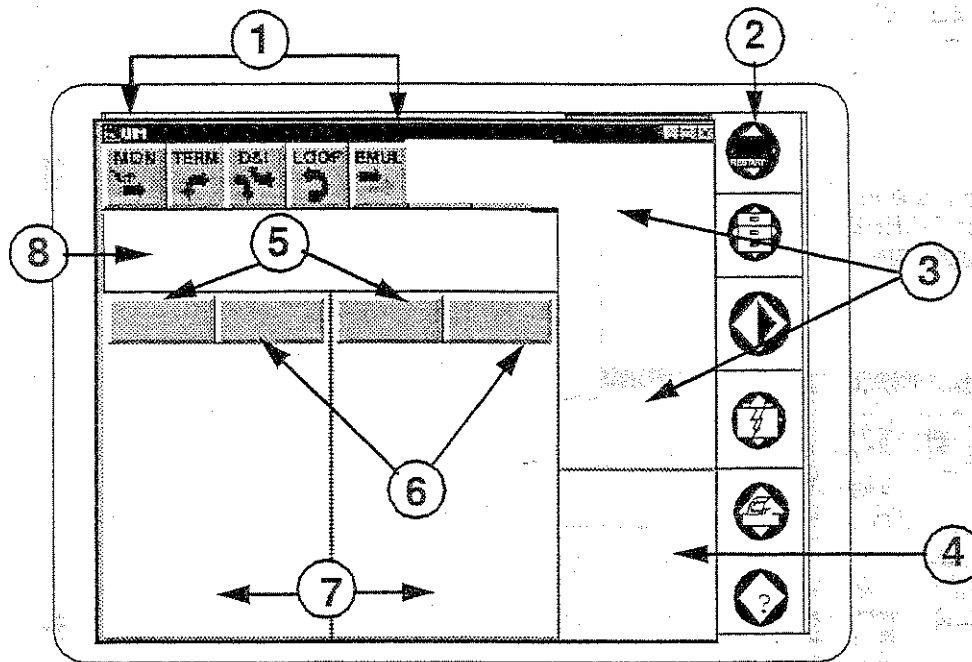
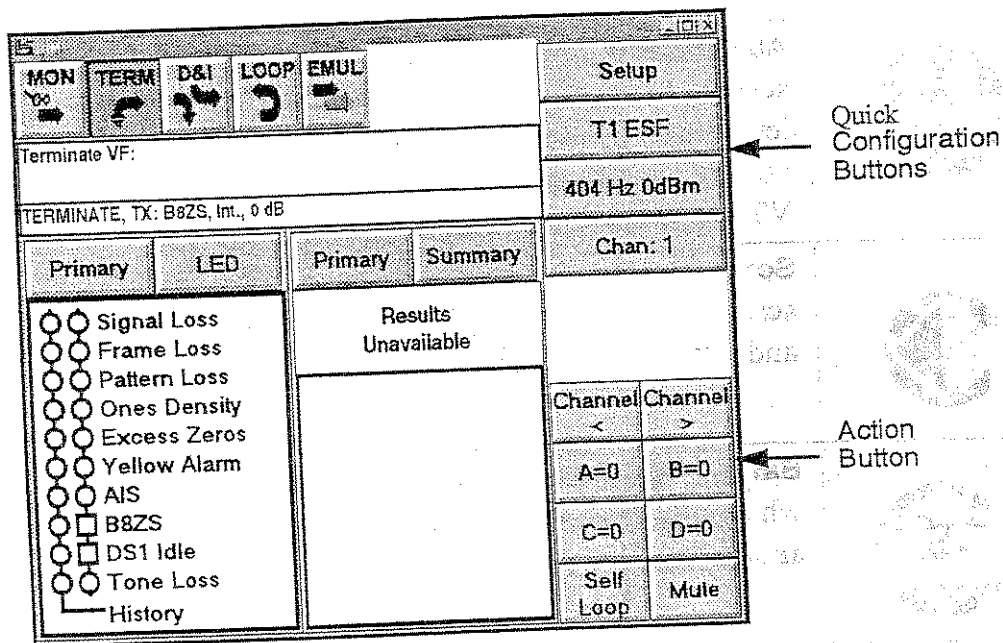
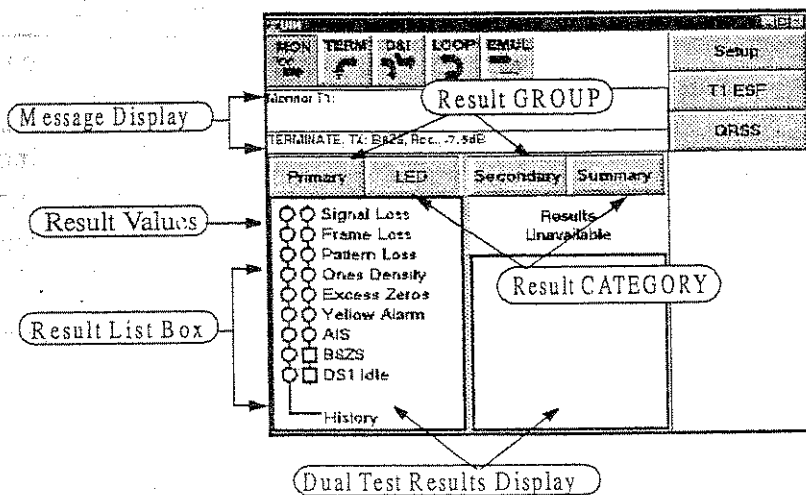

Figure 2-1. Main Screen
Figure 2-3. Sample Configuration/Action Buttons Usage
Figure 2-6. Dual Test Results Display (Labeled)
When you activate the T-BERD 2209, it displays the main screen (see Figure 2-1). The main screen is used to provide setup and configuration data and to display test-specific action buttons.
The Main Screen is divided into eight areas (Figure 2-1). Each area has a function, as described in the following paragraphs:
3. **Quick Configuration Softkeys** — These multiple configuration buttons display based upon the type of test initiated. Only those pertaining to the specific test display (as a default), depending on the test application you have chosen. The **Setup** button allows you to change configurations. Figure 2-3 depicts real-test usage. Refer to Section 2.1.1 for information on how these buttons apply to the Property Sheets.
4. **Action Softkeys** — These action buttons are designed to take specific action during a test to initiate and measure the test (see Figure 2-1 and Figure 2-3).
- Dual Test Results Display** — This area (see Figure 2-1) displays two test results windows associated with the current test application. Each window has a button for selecting the Result GROUP, a button for selecting the Result CATEGORY, a Result VALUE display window, and a Result LIST box. Figure 2-6 shows a sample depiction of the Dual Test Results Display.
8. **Message Display** — This area (see Figure 2-1 and Figure 2-6) displays messages regarding activity associated with the current test application. The message display is comprised of: